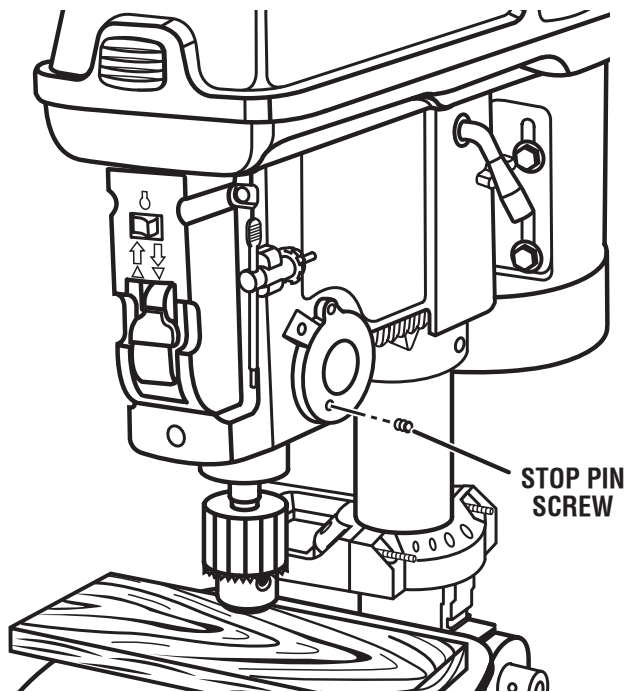

Fig. 25
- Remove the stop pin screw from the right side of the drill press and install in the left side of the drill press as shown. Tighten stop pin screw. *See Figure 25.*
- Install the feed handle assembly and depth stop ring on the left side of the drill press. With the chuck at its highest possible position, turn the depth scale clockwise until it stops and tighten the depth scale lock. This will prevent the quill from dropping while installing the spring. *See Figures 25 - 26.*